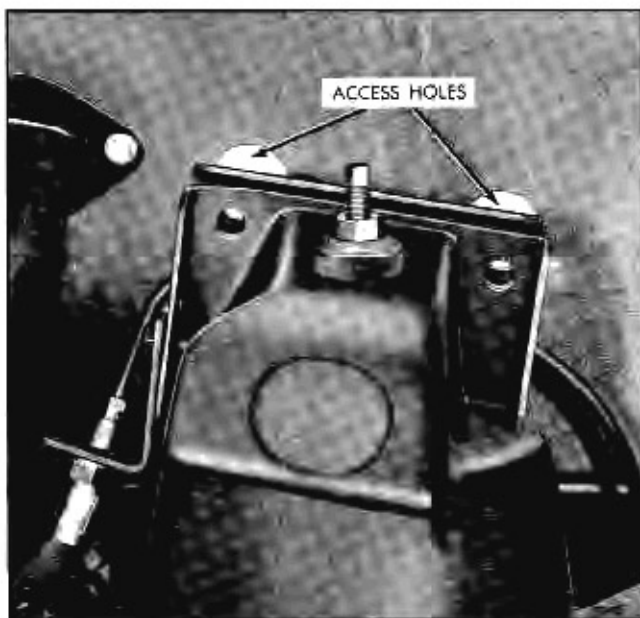

Fig. 3-22 Access Holes for Control Arm
control arm retaining bolts and remove bolts through access holes (Fig. 3-22).
1. Install bolts through access holes (Fig. 3-22) and install upper control arm to crossmember.